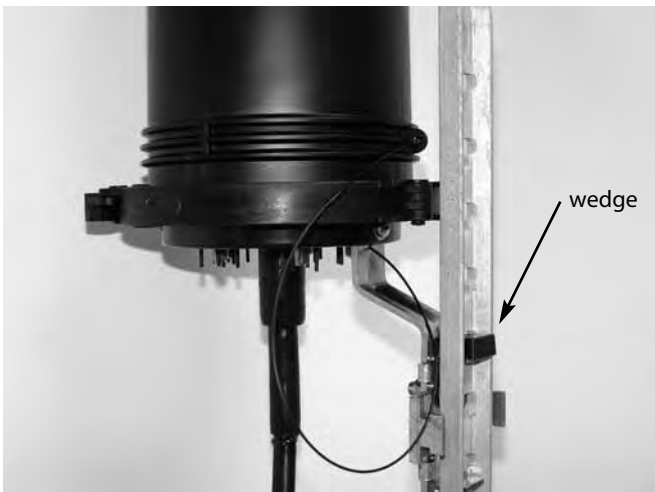

Figure 2
2. Insert the feet of the rack mounting bracket into the slots on the rack, and insert the wedge between the top of the rack bracket and the rack to stabilize the closure. (Figure 2)